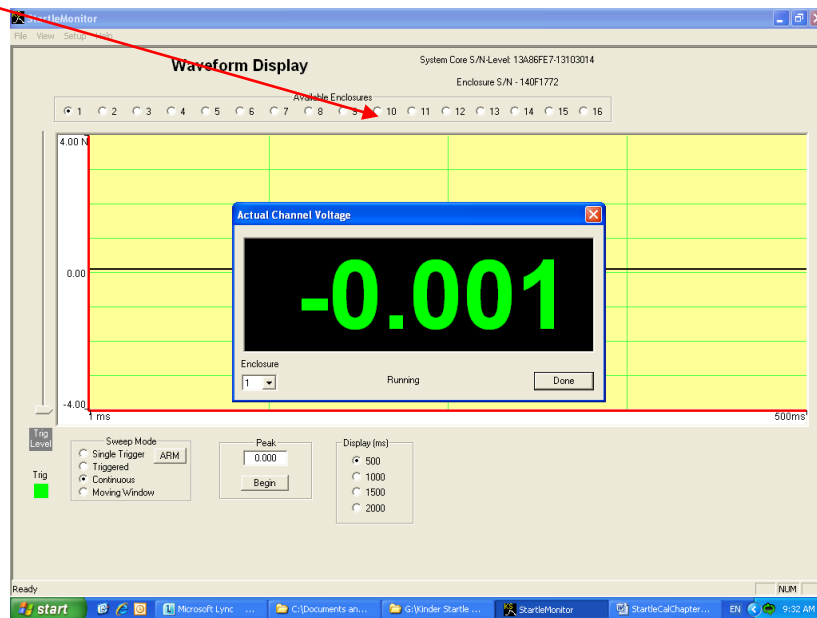

Figure 109 View Actual Voltage Screen (Mechanical Offset)
Step 2. From the main window, Click on View then Diagnostic, then View Actual Voltage. The following screen will appear (Figure 109).